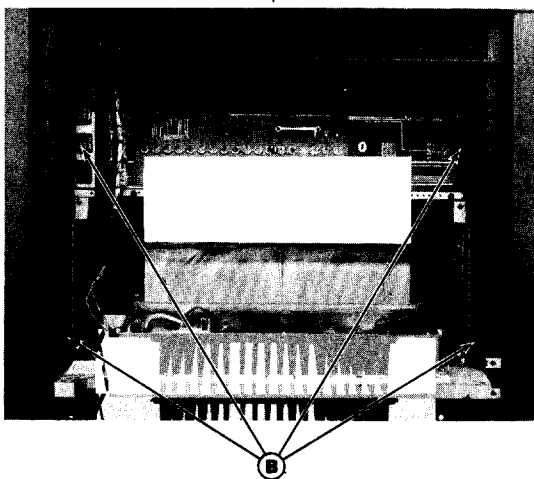

Figure 3 - Access to Station Power Amplifier Rear View
1. Remove the top two screws (B) on the Intermittent or Continuous Duty Power Amplifier. Refer to Figure 3.